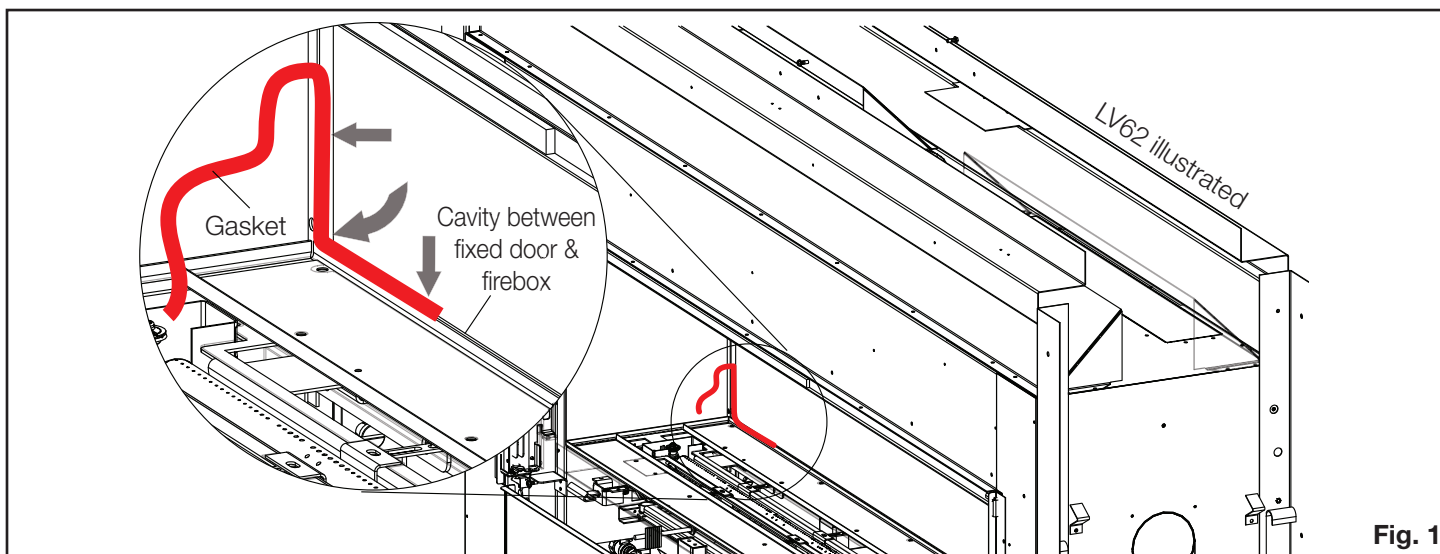

Fig. 1
6. Starting approximately 6" (152mm) from the side, use the tamping tool (supplied) to work the gasket into the cavity between the fixed door and the firebox (**Fig. 1**).